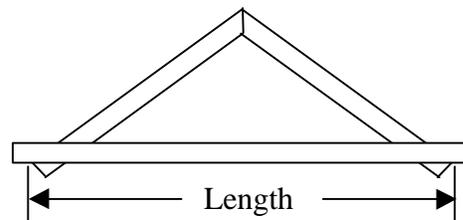

Figure 5
11. Measure from the lower outside face end across to the opposite side and determine the length. This is the length you'll need to cut the remaining board to. See Figure 5 above.